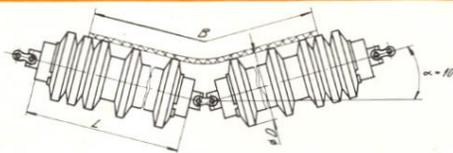

Fig. 4
- **B2g** according to fig.4 – are used for belt low side propping, aligning and cleaning.